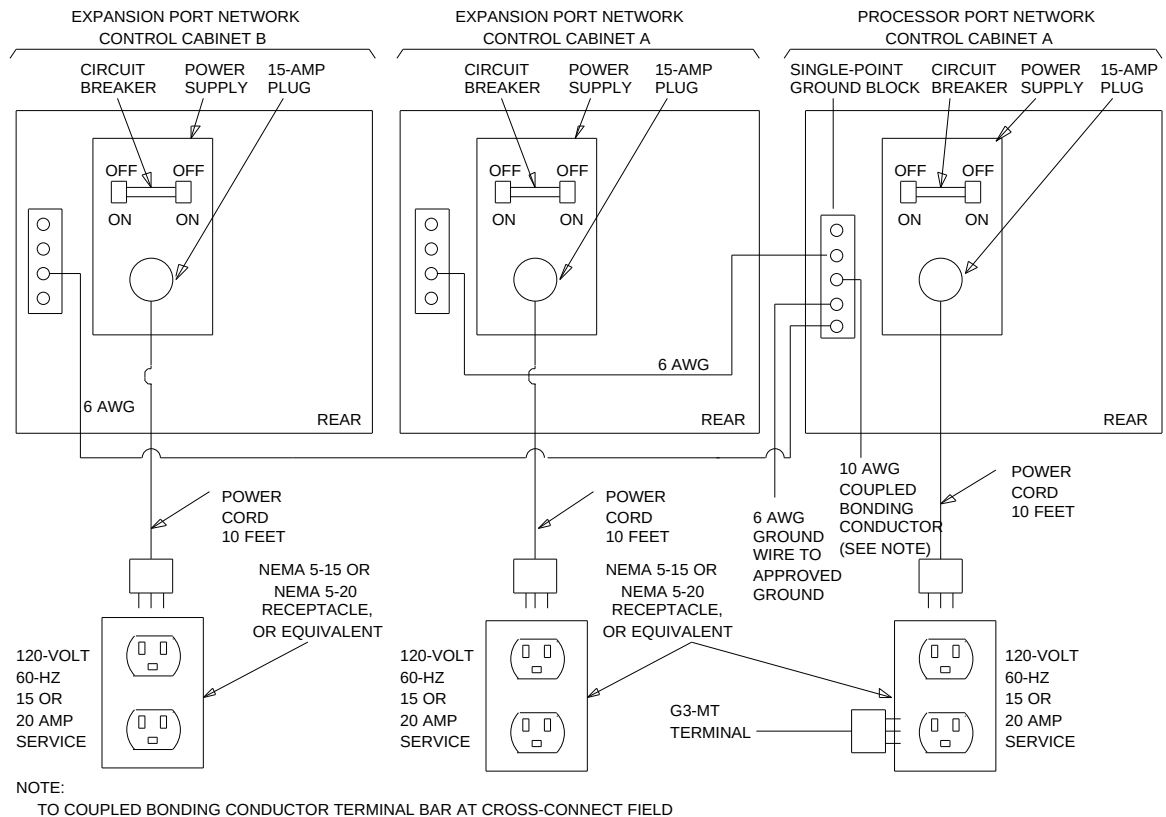

Figure 4-14. Typical Power and Grounding Arrangement for Single-Carrier Cabinet
To connect ground, refer to Figure 4-14 and do the following:
Each cabinet has its own power supply, and the circuit breaker is located on the rear of each power supply (see Figure 4-14).
2. Connect cabinet AC line cords to the AC power receptacles. The AC line cords for the cabinets must first be connected to the cabinets, and then to the AC power receptacles (Figures 4-14 and 4-15).